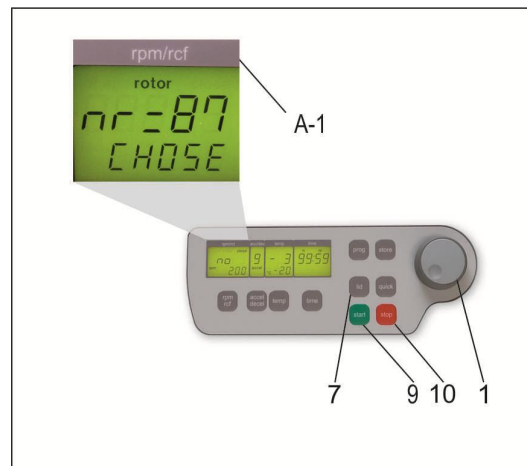

Figure 2
Switch on the unit and open the lid. Now press simultaneously the keys "lid " (7) and "stop" (10). In the display "rpm/rcf" (A-1) then appears the old settled rotor type, i. e. "87". With the potentiometer (1) you can settle the used rotor now. (see figure 2) To adopt the data in the unit please press the "start" (9) key. Inside the display (A-1) the stroke "store" appears to the confirmation.